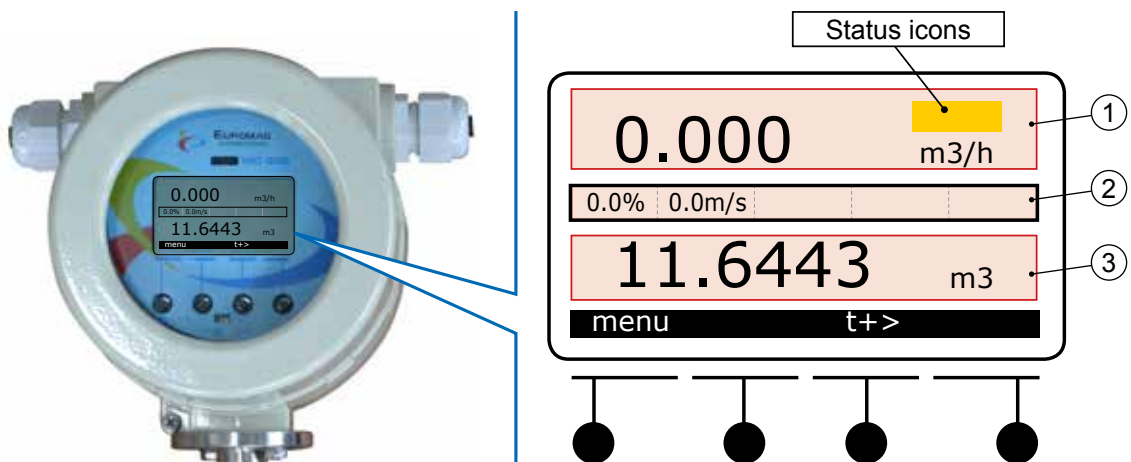

Fig. 44 Display Description
With reference to Figure 44, the converter display is divided into 3 main areas:
- The top area (see 1, Fig. 44) contains the status information symbols, with indicators of battery life (MC608B and MC608R), power supply (MC608A) or power supply and battery recharge (MC608R), as well as the alarm symbols and instantaneous reading of the flow rate (for more information on the icons that can be displayed and their meanings see paragraph “5.2.2 Identification and description of status icons”).
- The central area (see 2, Fig. 44) contains a linear graph of the flow rate expressed as a percentage of the full scale
- The bottom area (see 3, Fig. 44) can be selected by the client and possible options are: